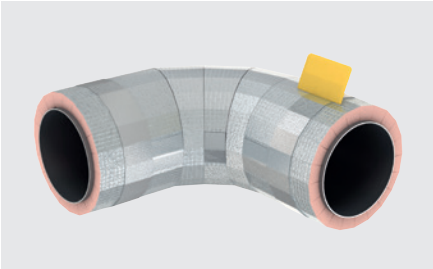

Figure 23: Smooth out any wrinkles
- All circumferential joints shall be vapour sealed with tape securely applied in a smooth and wrinkle-free manner to ensure a proper, vapour tight and lasting adhesion as shown in Figure 23.